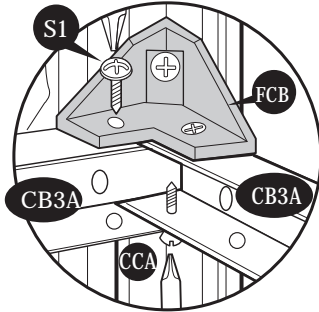

Fig.2: Use (S1) screws. Fix (CB3A) to (FCB) and (CB1A)
18. Stabilize the side panels with center bands (CB3XA) & (CB3A). Fix (FCB) fitting to corner column (CCA). See Fig.1 Follow the Fig. 2, 3, 4, 5 & 6.